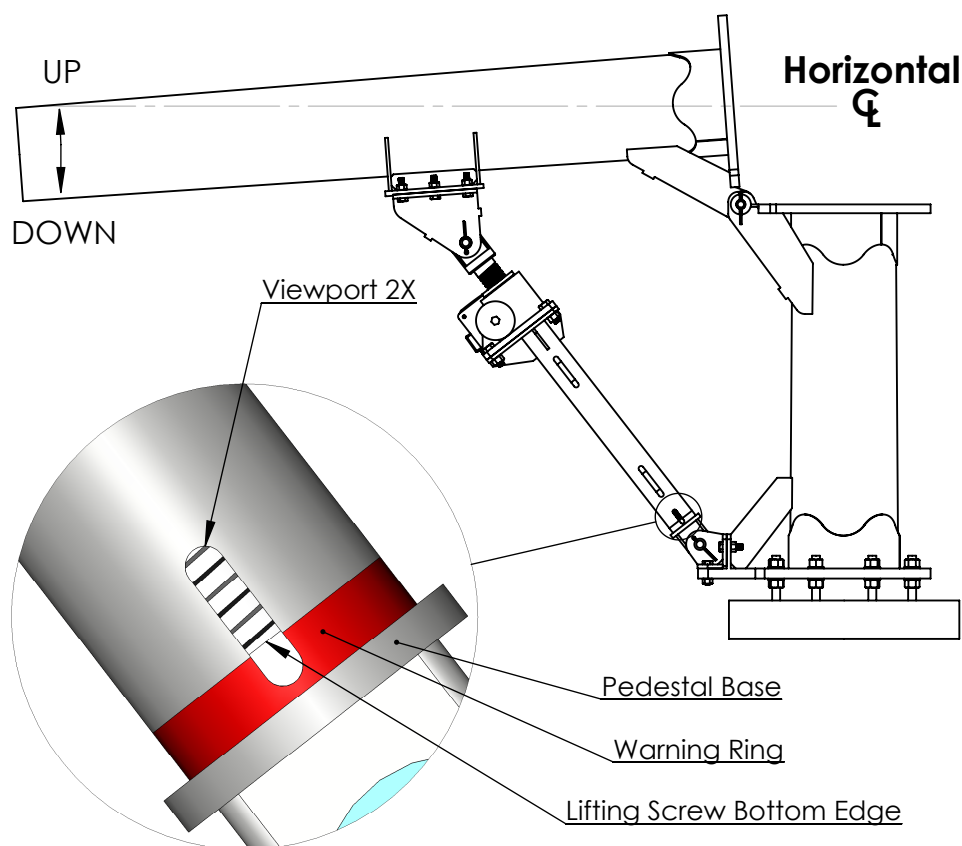

Figure .8
- Inspect lifting screw threads for debris and damage before each use. Remove all debris from lifting screw threads. When needed, carefully remove burrs on the thread surface using a hand file. Do Not use an electric grinder as excess heat can damage the steel surface. To expose threads loosen dustcover clamps then collapse dustcover boot (see Figure .8). Disconnecting the dustcover also allows the lifting screw to be manually retracted or extended without twisting or damaging the dustcover.
2. Loosen top dustcover clamp then disengage boot from lifting screw link (see Figure .8 for more detail).